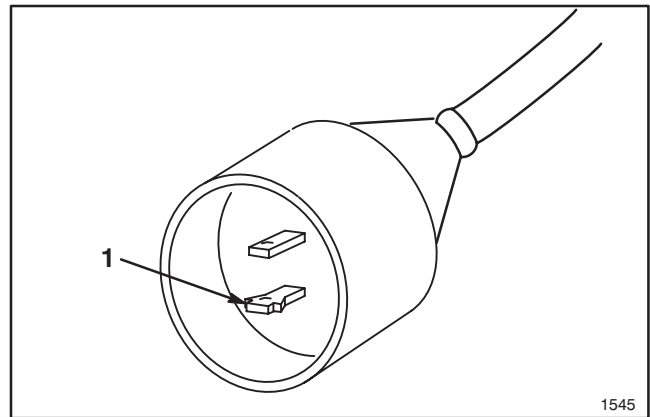

Figure 6
- To reduce the risk of electric shock, the *Power Shovel* has a polarized plug (one blade is wider than the other) (Fig. 6) that requires a polarized extension cord. The appliance plug fits into a polarized extension cord only one way. If the plug does not fit properly into the extension cord, reverse the plug. If the plug still does not fit, obtain a correct polarized extension cord. A polarized extension cord requires the use of a polarized wall outlet. This plug fits into the polarized wall outlet only one way. If the plug does not fit fully into the wall outlet, reverse the plug. If the plug still does not fit, contact a qualified electrician to install the proper wall outlet. Do not change the equipment plug, the extension cord receptacle, or the extension cord plug in any way.
Your *Power Shovel* has a polarized plug. This means one prong in the *Power Shovel* cord is larger than the other (Fig. 6). When inserting the end of a suitable extension cord into the *Power Shovel* cord, be sure to insert the enlarged prong into the wide slot in the extension cord end. See the *Safety Instructions* for additional information.